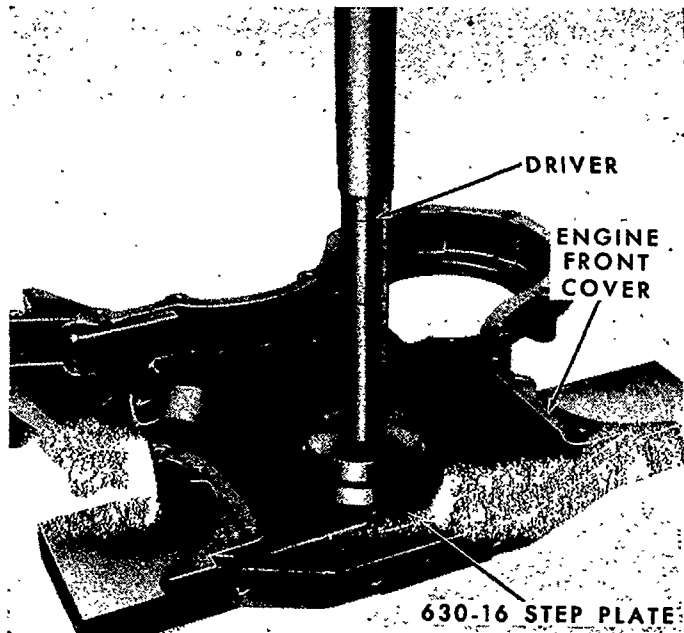

Figure 26
3. Insert the dust seal in the seal bore before installing the oil seal. Coat the new oil seal with petroleum jelly and install the seal as shown in Figure 26. To install the seal, use Step Plate No. 630-16 and a driver handle. Drive the seal in until it is fully seated in the seal bore. Check after installation to be sure the spring is properly positioned in the seal.